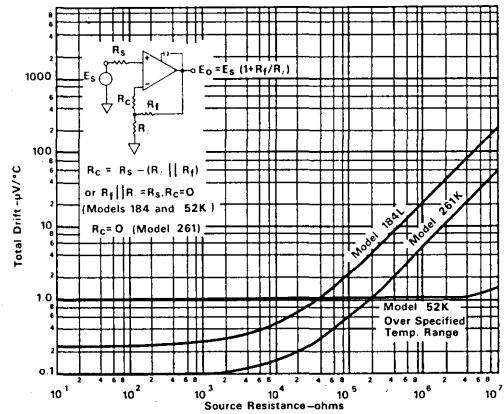

Figure 2. Offset Drift vs. Fixed Source Resistance
**Fixed Source Resistance.** If source resistance is fixed, bipolar chopperless amplifiers not having internal bias current drift compensation can benefit by the use of a compensating resistor in series with the (-) input. Under these conditions, Figure 2 shows a comparison of total drift  $^\circ\text{C}$  vs. source resistance for the model 261K, the model 184L low drift bipolar amplifier, and the model 52K low drift FET amplifier. For source resistances up to 200,000 ohms, the model 261 gives the lowest temperature drift. Total drift (R.T.I.) is equal to: